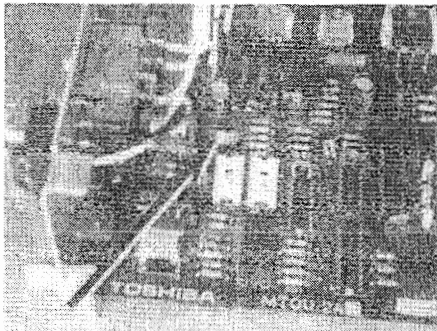

FIGURE 26
11.42 The 8-ohm output impedance must be selected with the SW2 switch on the MTOU (Figure 26). The switch must be on the side labeled "8".
11.52 Determine which output impedance is most suitable for the amplifier being used, and make the selection with the SW2 switch on the MTOU (Figure 26).